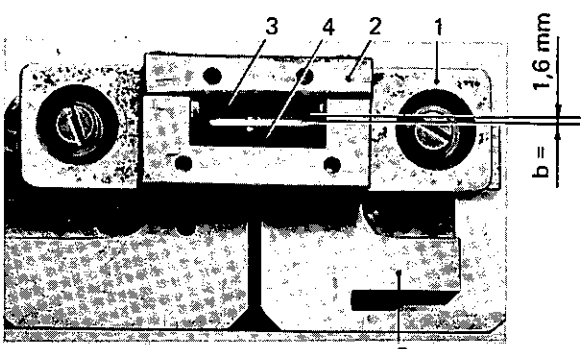

Fig. 8
- Check the cathode, it should be located symmetrically in the gap $b = 1.6$ mm (Fig. 8).